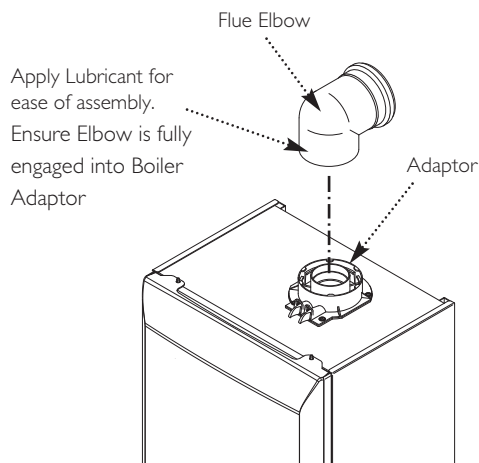

Fig. 27
11. Refit the elbow to the boiler adaptor, ensuring that it is pushed fully in (Fig. 27).